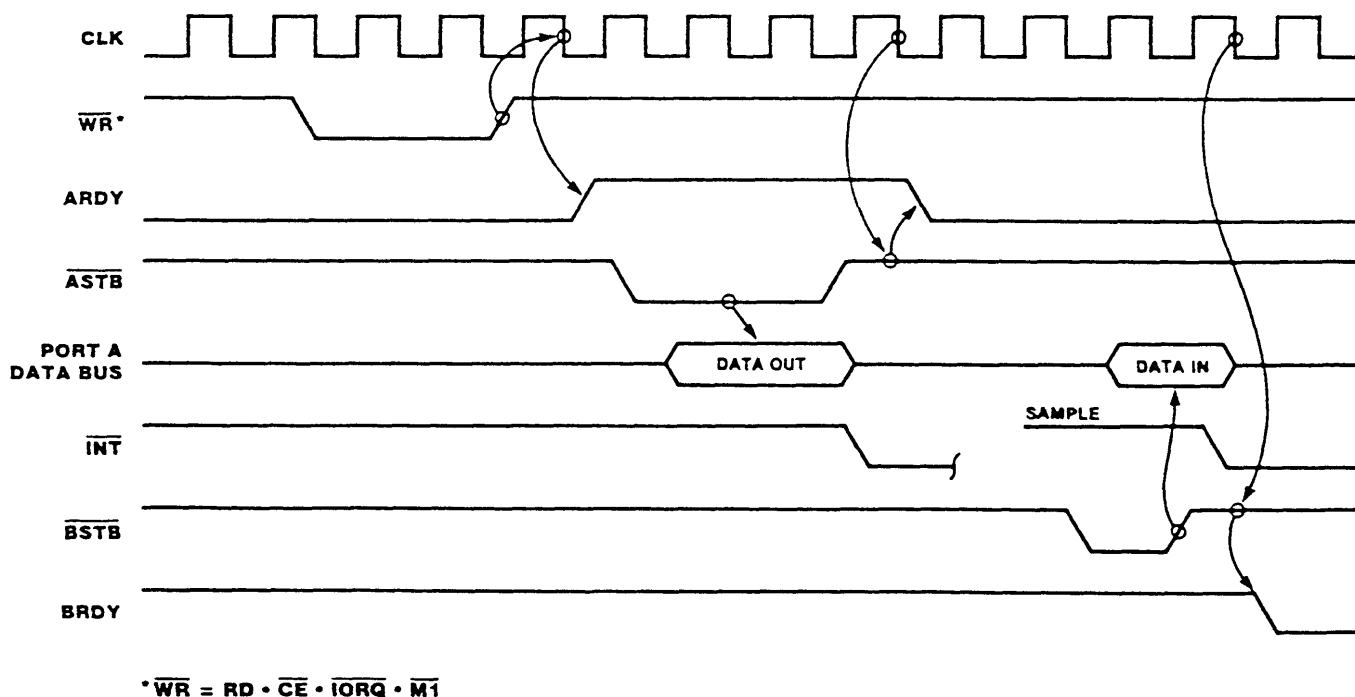

Figure 16. Mode 2 Bidirectional Timing
**Bidirectional Mode (Mode 2).** This is a combination of Modes 0 and 1 using all four handshake lines and the eight Port A I/O lines (Figure 16). Port B must be set to the tri-state mode and its inputs must be masked. The Port A handshake lines are used for output control and the Port B lines are used for input control. If interrupts occur, Port A's vector will be used during port output and Port B's will be used during port input. Data is allowed out onto the Port A bus only when  $\overline{\text{ASTB}}$  is Low. The rising edge of this strobe can be used to latch the data into the peripheral.